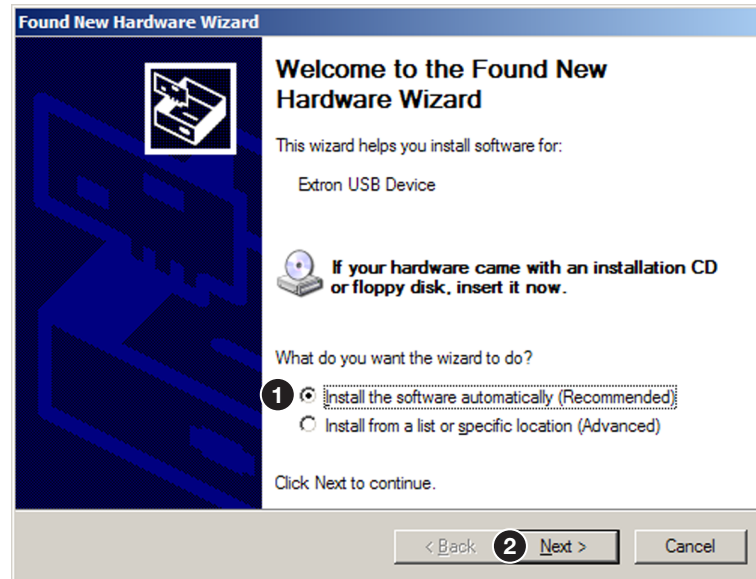

Figure 16. Installing the Software Automatically
4. Select the **Install the software automatically (Recommended)** radio button (see figure 16, ①).
5. Click **Next** (②).